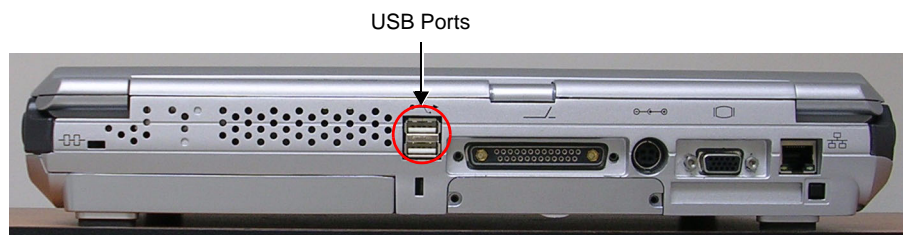

Figure 3-31 USB Ports Located at Rear of the Vivid i n/ Vivid q N
- 3.) Connect the other end of the USB cable to the Vivid i n/ Vivid q N USB port at the rear of the Vivid i n/ Vivid q N - see Figure 3-31.
- 5.) Connect the USB cable located on the SafeLock Cart main column, into the USB port located at the rear of the Vivid *i* n/ Vivid q N system (Figure 3-31 on page 3-39).